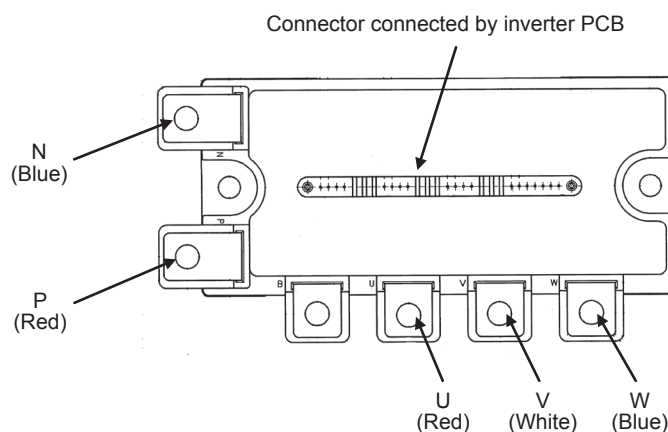

Fig.1 Parts arrangement view
- Disconnect with the wire (U, V, W, P, N ) to the transistor module. (Refer to Fig.1 Parts arrangement view)